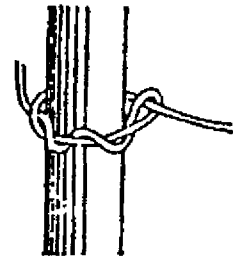

Fig. 3-32-2
- b. Wrap the end several times under and over the loop formed. (Fig. 3-32-2)